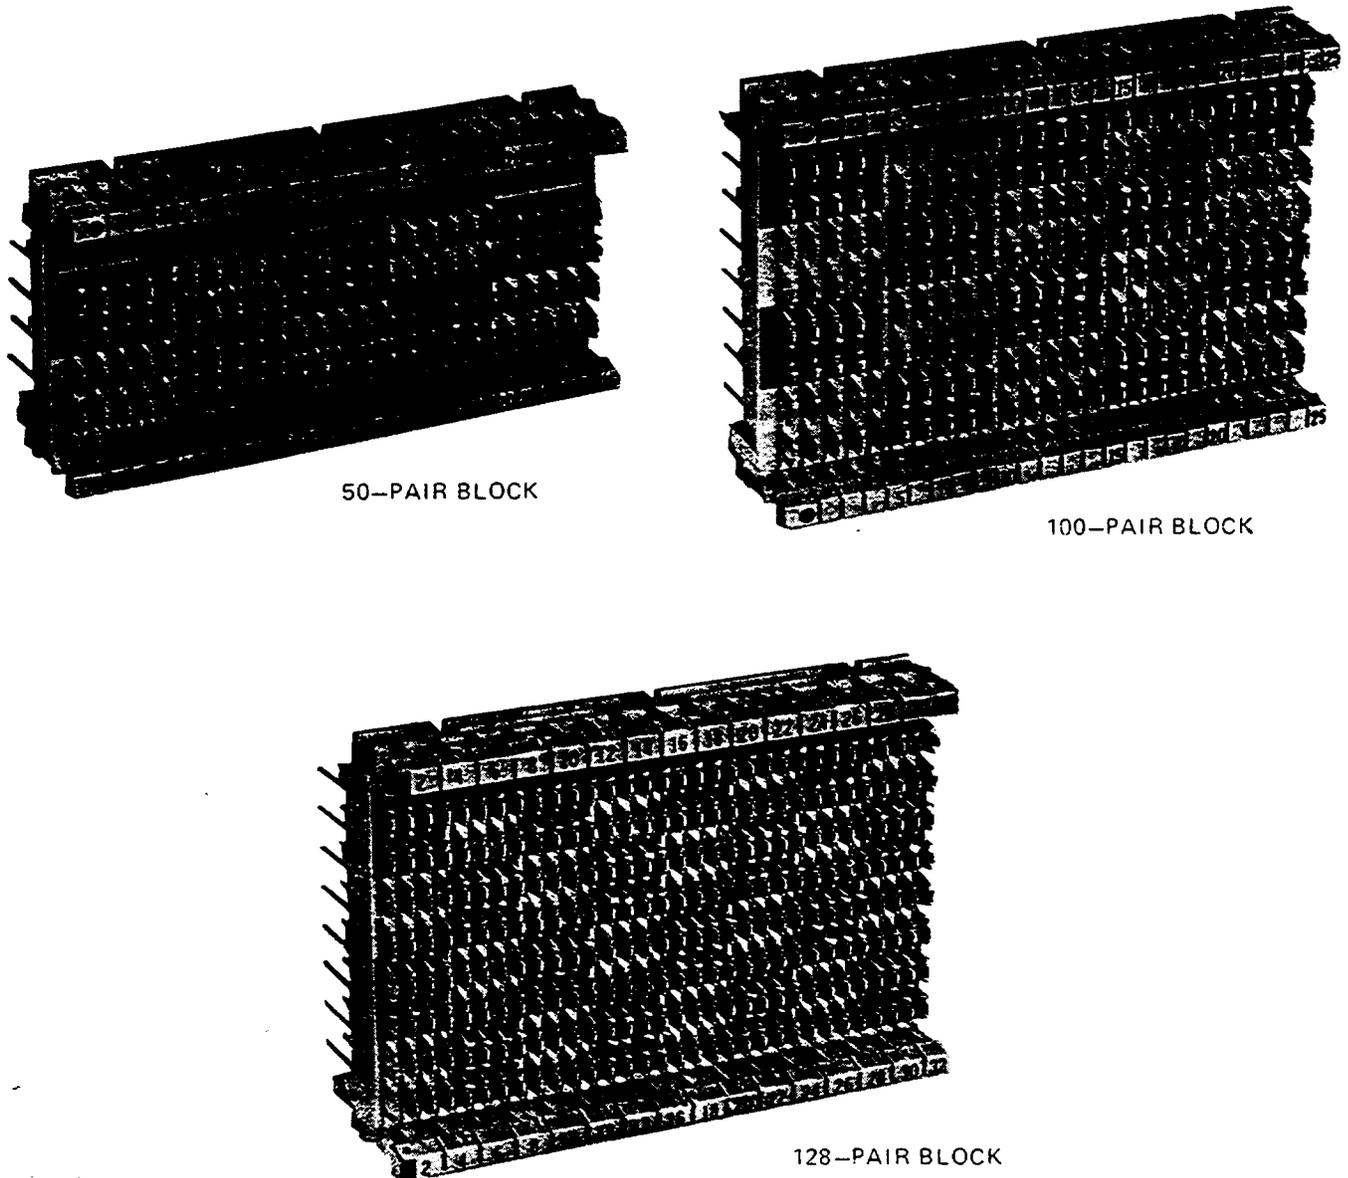

Figure 9—112-Type Connecting Blocks — 50-, 100-, and 128-Pair Terminal Arrangement
4.01 The 112-type connecting blocks (Figure 9) are designed for use with all AT&T *COSMIC* Distributing Frame Systems. These connecting blocks are a molded plastic design with bifurcated insulation